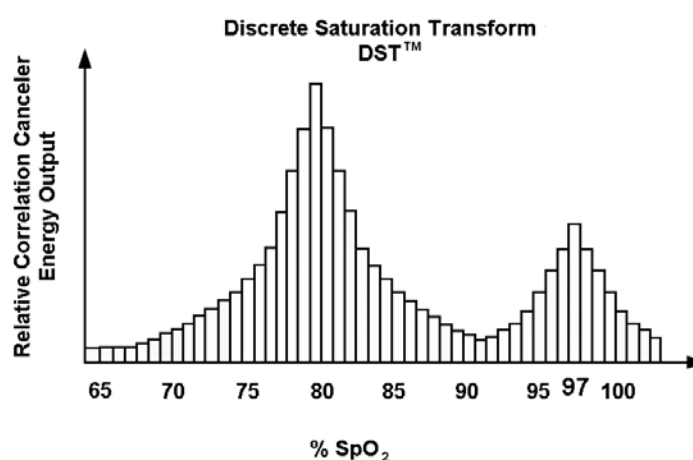

Fig. 92 DST™ plot: relative noise cancellation as a function of SpO2
The SET® software goes through all the possible values for R (corresponding to SpO2 between 1 and 100%) and calculates the associated interference components. An adaptive noise canceller, or ANC, then takes this value N'(R) to calculate the amplitude of the noise energy, or the so-called output power of the ANC. The result is a DST™ plot (Fig. 92) that exhibits at least the arterial peak. This peak demonstrates the particularly effective noise suppression for the affected SpO2 value when a precisely defined source of signal fluctuations, the arterial pulse cycle, has been identified. Other, also higher peaks can occur during venous fluctuations. Venous blood is saturated less with oxygen, so the peak with the maximum SpO2 value (in the right half of the graph) always corresponds to the arterial oxygen saturation. In Fig. 92 the right peak corresponds to an SpO2 of 97%. The DST calculation is repeated every two seconds on the latest raw data over the preceding four seconds.